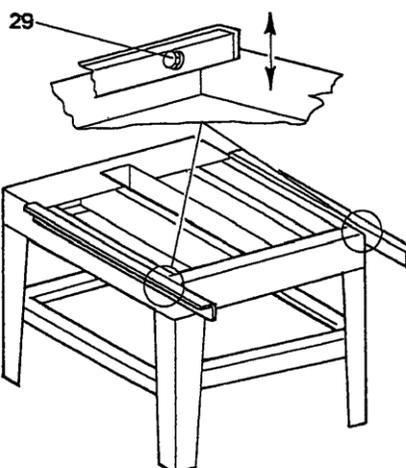

Fig. 12
2) With the motor shaft, skim the surfaces of the table holder squares, moving the handle (28) (see fig.11-a and 11-b) and slide the motor unit along the arm until it also skims the lateral squares. Work on the latter until parallelism is obtained and lock them with the appropriate screws (29) (see fig. 12).